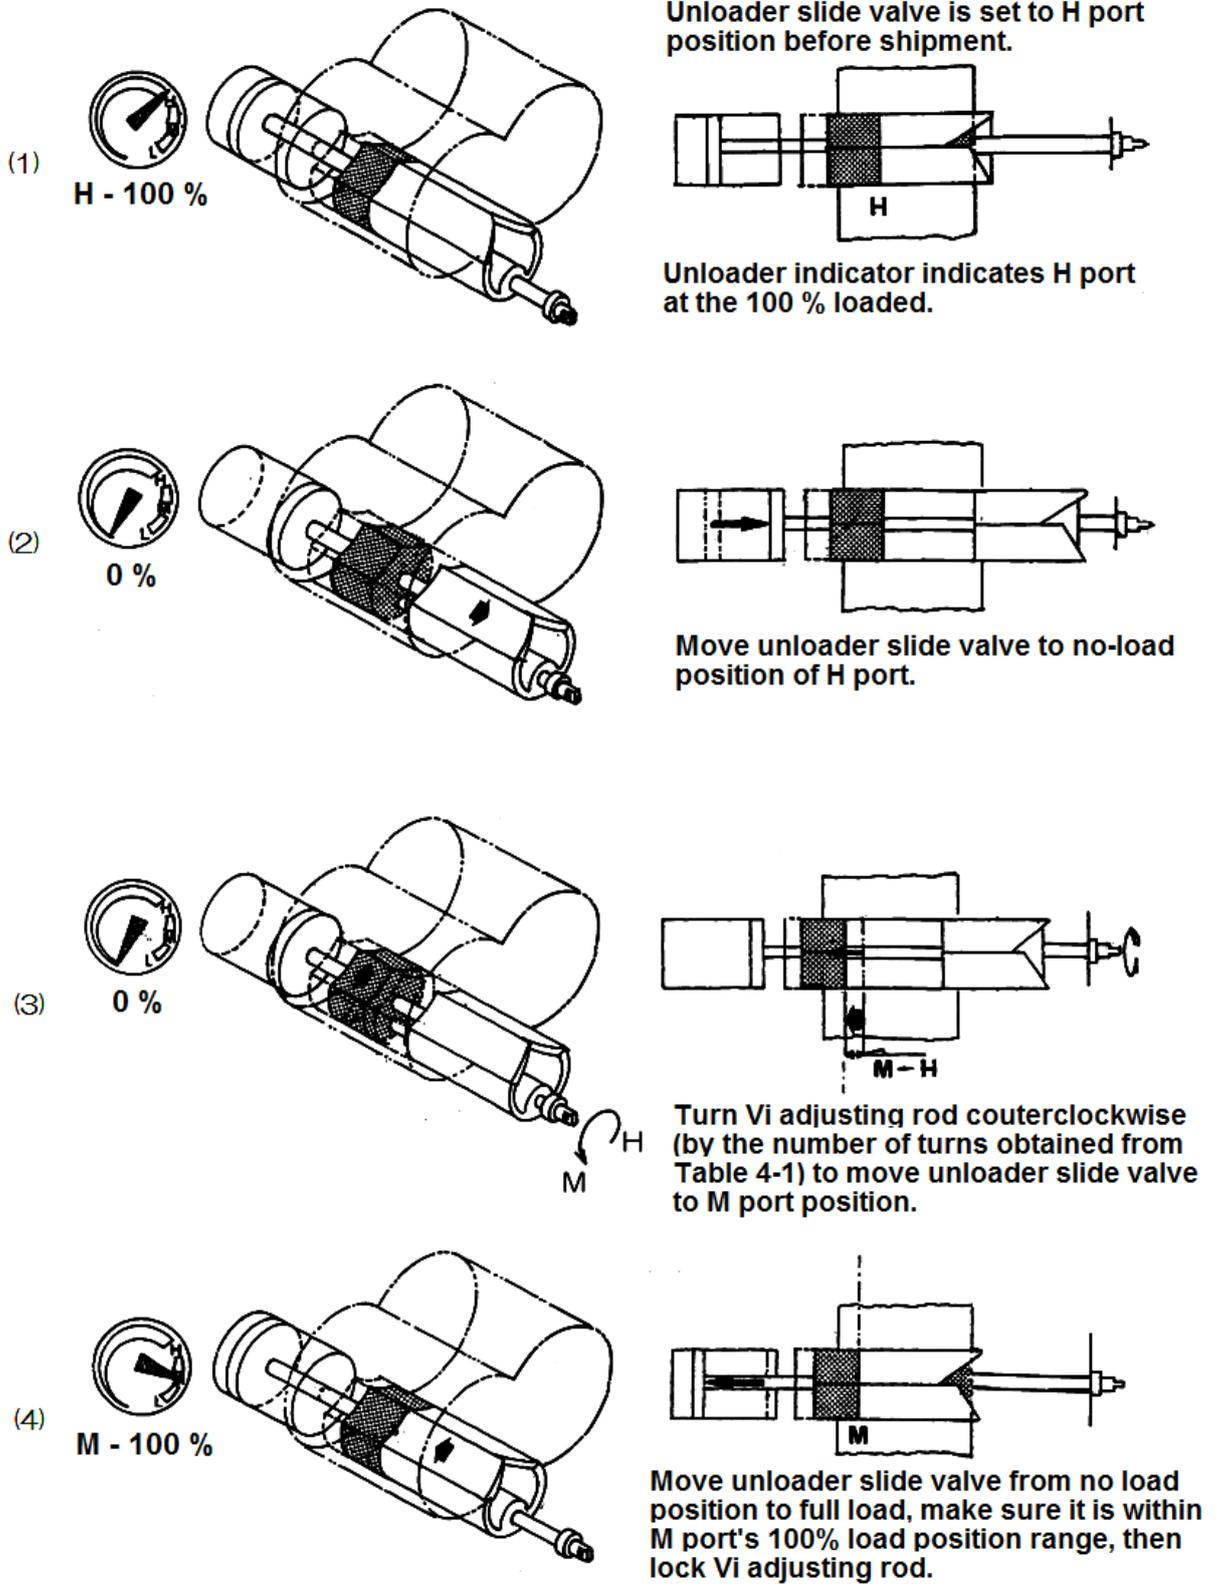

Figure 4-3 Vi Changing Sequence from H port to M port
- f) Turn the Vi adjusting rod clockwise until it stops. The position where the rod stops corresponds to the H port position the setting before shipment. Do not turn the rod any further as applying undue force will break the rotation stopping mechanism. This position corresponds to that in Sequence (2) in Figure 4-3.
- h) Turn the Vi adjusting rod counterclockwise by the number of turns determined in step (3). The Vi setting will be changed from the H port setting to the M port setting as shown in Sequence (3) in Figure 4-3.
- n) If the pointer of the unloader indicator aligns with the 100 % graduation for the port in question on the dial, the Vi is correctly adjusted to that port. This is the Sequence (4) in Figure 4-3.